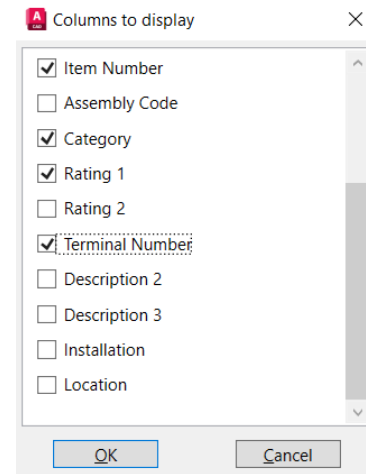

Figure 2-79 The *Columns to display* dialog box
2. Scroll down in the **Columns to display** dialog box and select the **Category**, **Rating1**, **Location** and **Terminal Number** check boxes, as shown in Figure 2-79. Next, choose **OK**; the **Category**, **Rating1**, **Location** and **Terminal Number** columns are added to the grid in the **Details** tab.